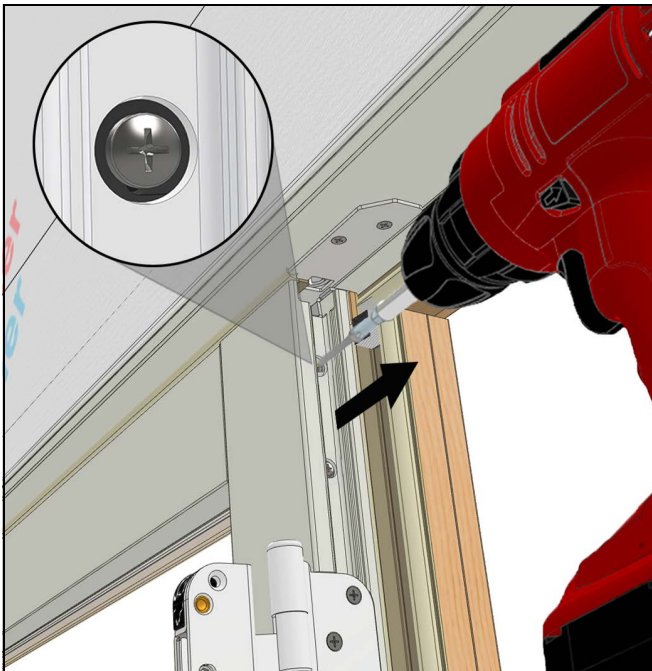

Figure 14
2. Remove one screw (pan head from each panel). See Figure 14.